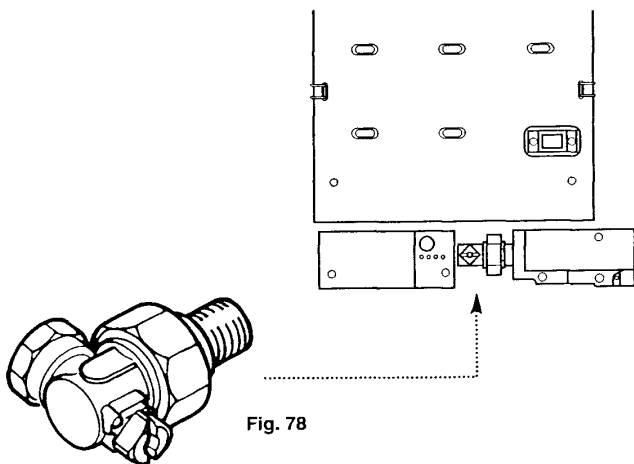

Fig. 78
1. Connection to the gas supply is RC½ (½ in BSPT internal) located at the rear of the gas cock (Fig. 78).